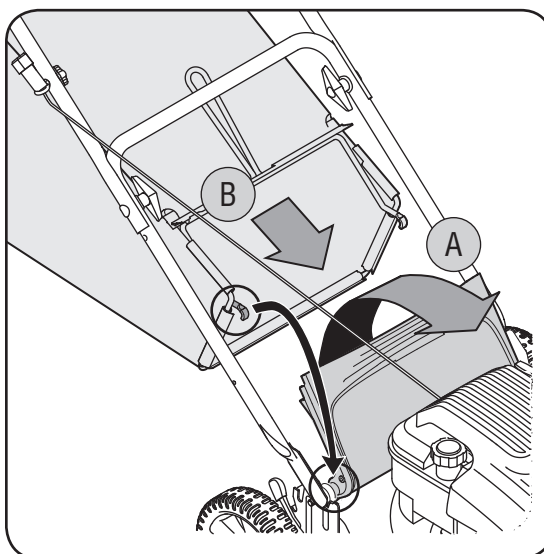

Figure 7
- a. Lift the rear discharge door on the mower, and place the grass catcher on the pivot rod. Let go of discharge door so that it rests on the grass catcher. See Figure 7.
- a. Lift rear discharge door on the mower as shown in Figure 7. Lift grass catcher up and out, off of the pivot rod. Release rear discharge door to allow it to close rear opening of mower.